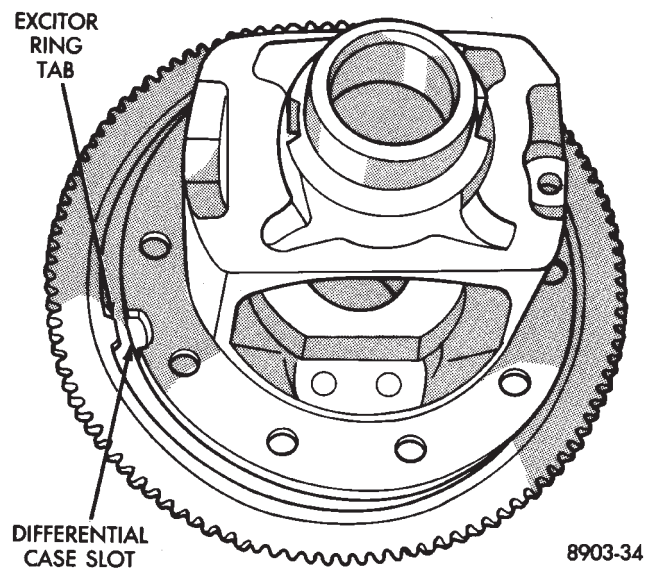

Fig. 19 Exciter Ring Alignment
(1) If exciter ring was removed, align exciter ring tab with slot in differential case (Fig. 19).